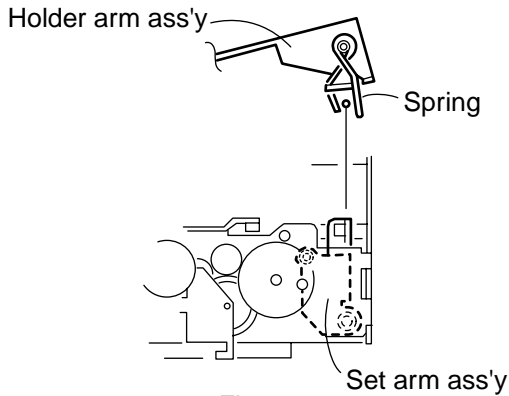

Fig.16
6. Install the spring attached to the folder arm ass'y shaft over the set arm ass'y as shown in Fig.16.